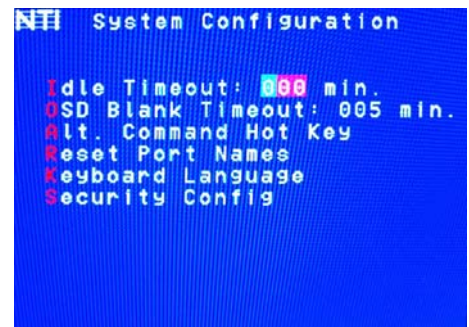

Figure 36- Change value of Idle Timeout
1. press  from the System Configuration menu (page 28) to display the pink edit field around the value (see Figure 36)